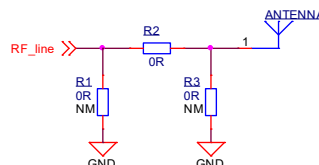

Figure 8.2: Recommended antenna matching pi network
Finding appropriate values for the components should be considered an iterative task. It is recommended to add a pi network for matching as shown in Figure 8.2. The following matching strategy is proposed:
3. Start out with no components on the antenna network shown in Figure 8.2:
5. Mount a 0  $\Omega$  resistor at R2 in Figure 8.2